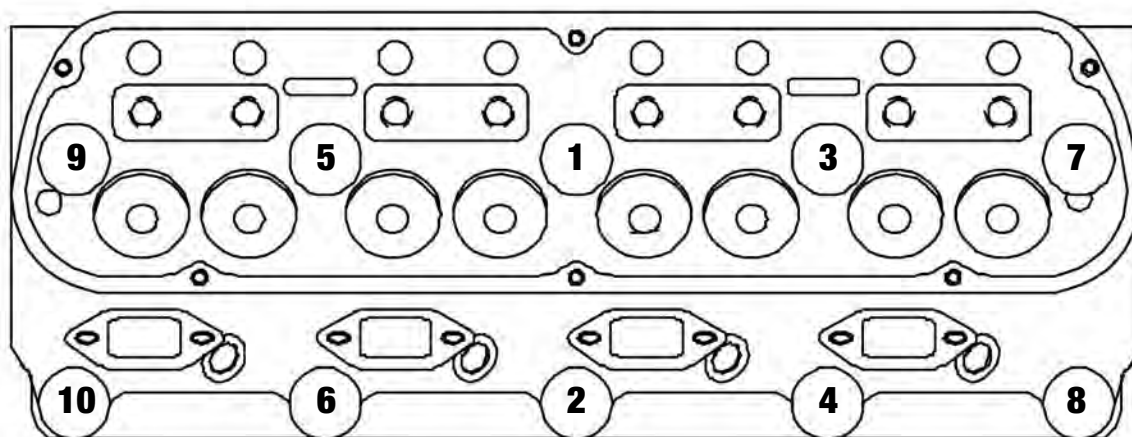

Figure 1 - Head Bolt Tightening Sequence
- Installation is the same as for original equipment cylinder heads. Consult service manual for specific procedures, if necessary. Head gasket recommendations are listed in the head gasket section. Be sure that the surface of the block and the surface of the head are thoroughly cleaned to remove any oily film before installation. Use alcohol or lacquer thinner on a lint-free rag to clean. Apply moly-oil mixture to head bolt threads, washer, and area under head bolt to prevent galling and improper torque readings. Torque to 70 ft./lbs. for 7/16" bolts (289/302) or 100 ft./lbs. for 1/2" bolts (351-W) in three or four steps following the factory tightening sequence (see Figure 1), then tighten the long (upper) head bolts to 80 ft./lbs. (7/16") or 110 ft./lbs. (1/2"). A re-torque is recommended after initial start-up and cool-down (allow 2-3 hours for adequate cooling).